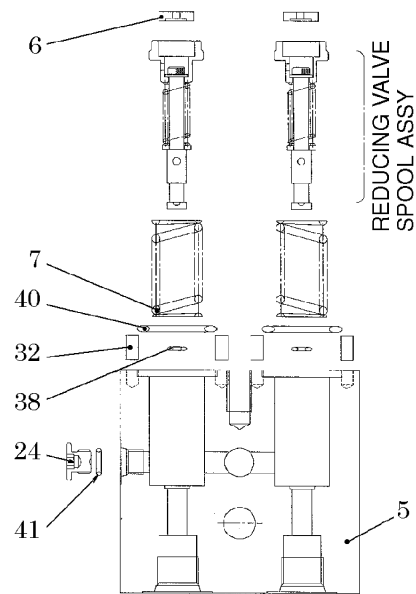

Fig. 4-8 Assembling the reducing valve
(See See YN24, I - 4-7, Fig. 4-8, 4-9)
10. Assembling the reducing valve (See Fig.4-8.)